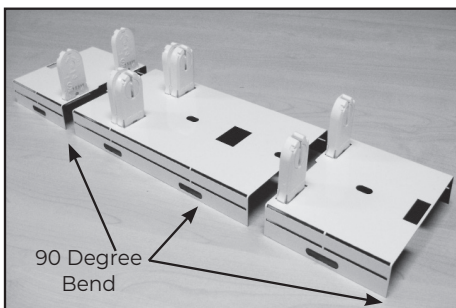

Figure 3. Bend the tabs on the Fixture Bracket Socket Plates 90 Degrees.
6. Figure 3 shows the tabs on all three sections of the socket plates bent approximately 90 degrees and configured for a 4.25" wide luminaire housing.